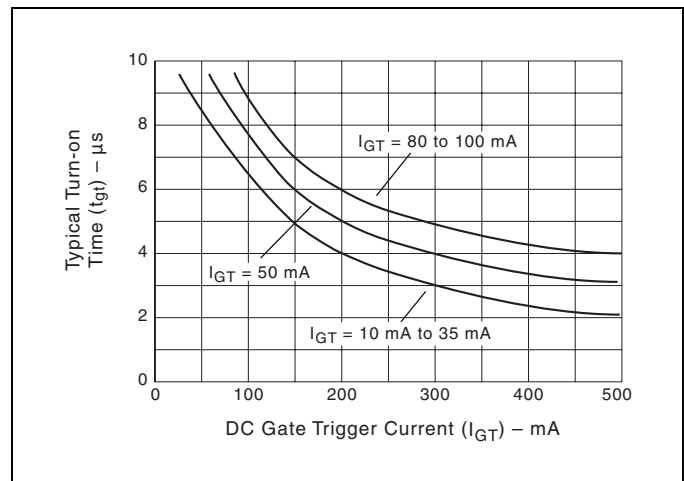

Figure E4.12 Turn-on Time versus Gate Trigger Current (Typical)
- (10) See Figure E4.12 for t_{gt} versus I_{GT} .
- (11) See package outlines for lead form configurations. When ordering special lead forming, add type number as suffix to part number.
- (12) Initial on-state current = 400 mA dc for 16 A to 40 A devices and 100 mA for 6 A to 12 A devices.